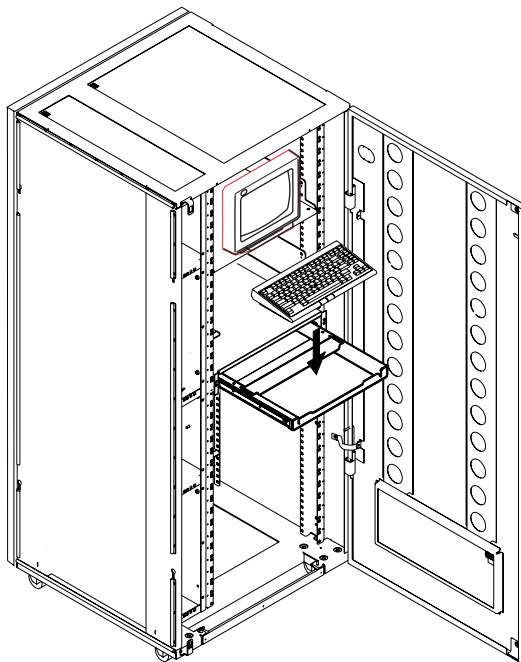

Figure 1-8. Installing the Keyboard
10. ____ Open the drawer and install the keyboard as shown in Figure 1-8.